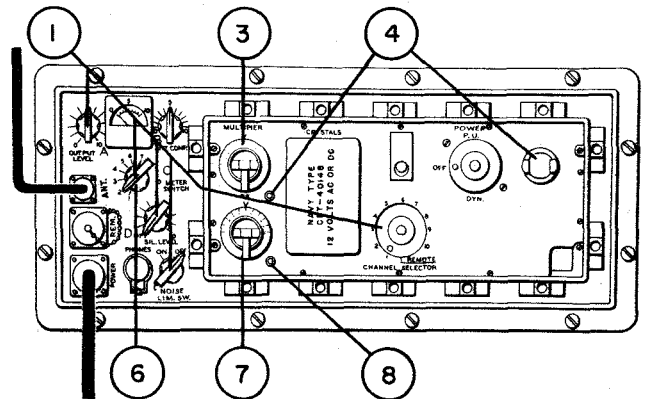

Figure 3-29. RDR Receiver Tuning Controls
(3) TUNING.—With the receiver voltages and currents within the limits listed in the preceding tabulation, set the channel selectors for the frequencies to be used as follows:
Step 1. Set the controls on the front panel of the receiver to the positions indicated in the following tabulation (Figure 3-29):